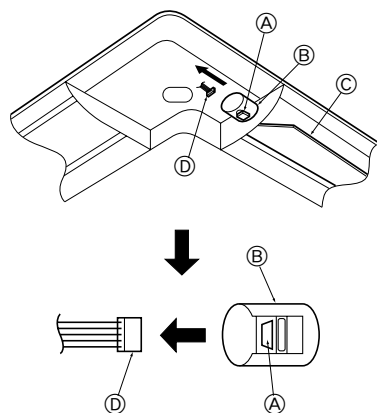

Fig. 5-9
5.4. Locking the up/down airflow direction (Fig. 5-9)